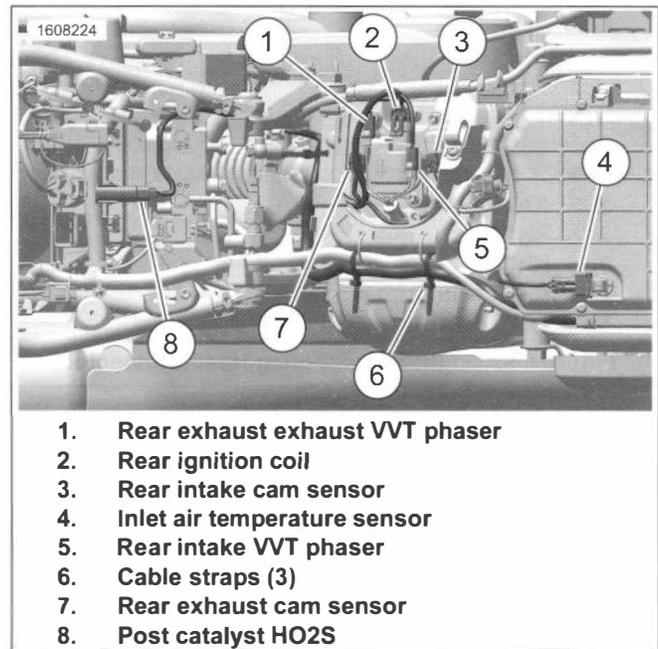

Figure 8-91. Under Seat Connectors
1. See Figure 8-91. Cut and discard cable straps (6).
- a. Rear exhaust cam sensor (7).
- b. Rear intake cam sensor (3).
- c. Rear exhaust VVT phaser (1).
- d. Rear intake VVT phaser (5).
- e. Rear ignition coil (single) (2).
- f. Post catalyst HO2S (International models) (8).
- a. Engine harness (1).
- b. Front HO2S (3).
- c. Rear HO2S (4).
9. Install new cable straps (5).
10. See Figure 8-91. Connect connectors:
e. Rear ignition coil (single) (2).
f. Post catalyst HO2S (International models) (8).